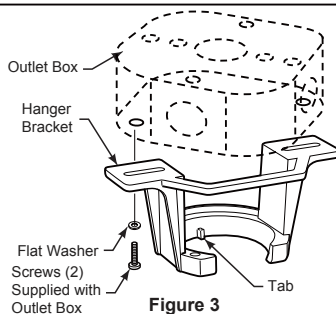

Figure 3
- ☐ 3. Route the black, white and blue wires through the downrod. (Figure 3)
- ☐ 1. Securely attach the hanger bracket to the outlet box (not included) using the outlet box screws and washers supplied with the outlet box. (Figure 3)